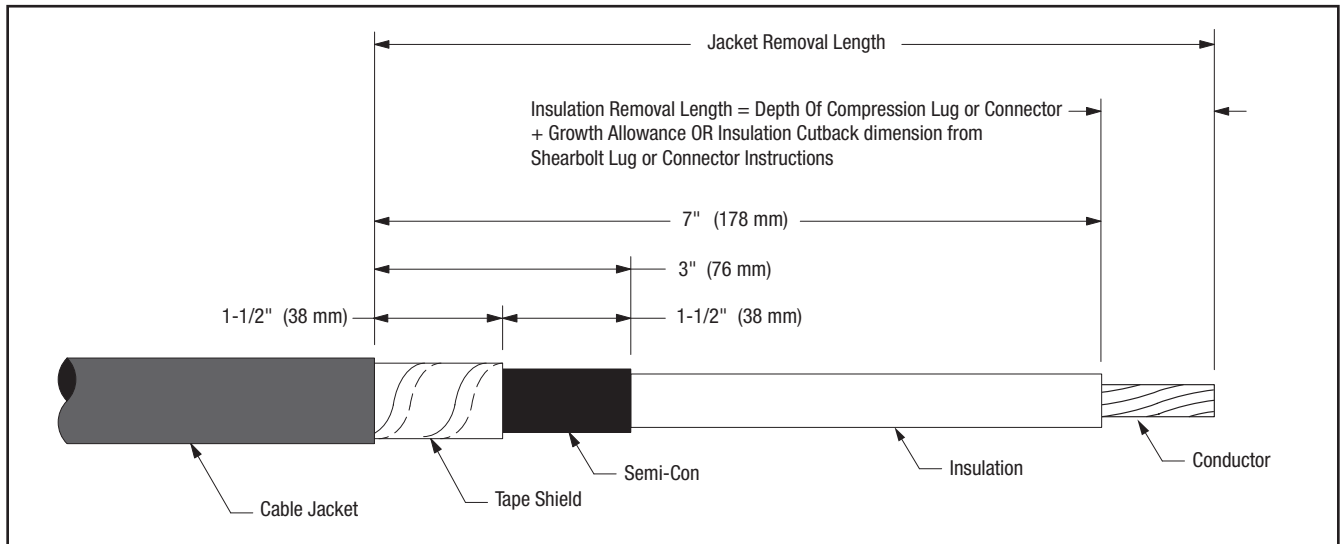

Figure 1
- 2.2 Prepare cable using dimensions shown in Figure 1. **BE SURE TO ALLOW FOR DEPTH OF TERMINAL LUG OR CONNECTOR.** If necessary to prevent tape shield from unrolling, hold down edge with a single wrap of 3M EMI Copper Foil Shielding Tape 1181. If using 3M Shearbolt Lugs QL2 Series: Two Hole, or 3M Mechanical Shearbolt Connector QCI Series, proceed to Step 2.3. If using a Crimp Type (Compression) lug, measure the depth of the barrel, or if using a Crimp Type (Compression) connector, measure to the barrel center stop/midpoint, and see the NOTE below in order to calculate the Insulation Removal Length. Table 4 can be used to assist in calculating the total Jacket Removal Length when using a compression lug or connector